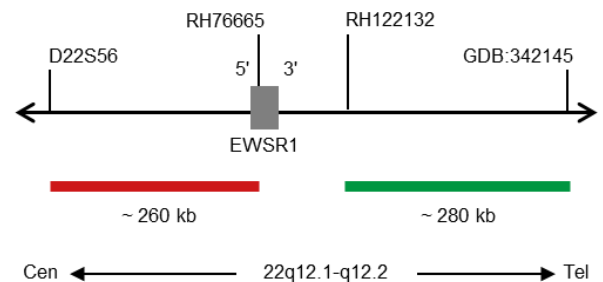

Fig. 1: SPEC EWSR1 Probe map (not to scale)
- Digoxigenin-labeled polynucleotides (~0.50 ng/μl), which target sequences mapping in 22q12.2* (chr22:29,779,841-30,057,928) distal to the EWSR1 breakpoint region (see Fig. 1).
- Dinitrophenyl-labeled polynucleotides (~0.75 ng/μl), which target sequences mapping in 22q12.1-22q12.2* (chr22:29,413,831-29,673,440) proximal to the EWSR1 breakpoint region (see Fig. 1).